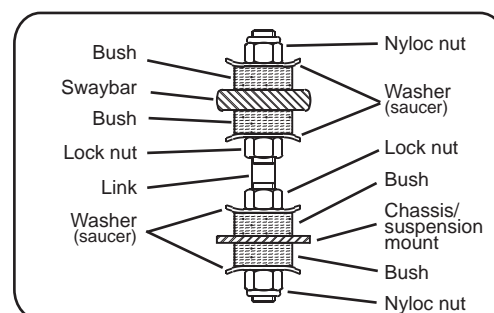

Fig.1. Whiteline double pin type link.
- For swaybars supplied with new links and hardware, refer to Figures 1 to 4 for bushing type endlink and their correct assembly. Refer page 2 for Ball-style.
**Caution:** Do not over tighten swaybar pin type link bushes, refer Fig 1. Nuts should be tightened until washer meets the bush & stops rotating. Then tighten a further  $\frac{2}{3}$  of a turn. Over tightening compresses and pre-loads the polyurethane bush which reduces articulation and may cause premature failure.